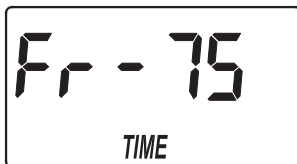

FIG. 21
1. If you completed the previous step, the aspirate time adjust screen should show in the display (See Figure 21). Otherwise, press and hold for 3 seconds the SELECT button, until the display shows "000 - -", then press the SELECT button twice to display the aspirate time adjust screen.